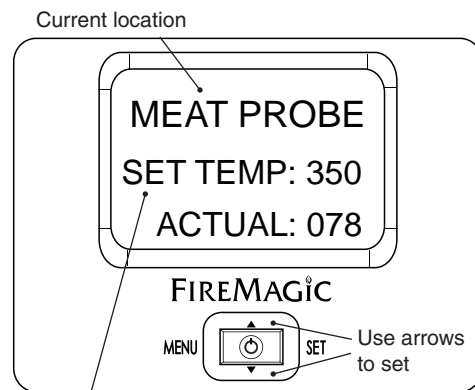

Fig. 21-4 Temp. screen (meat probe shown)
2. The selected location's temperature screen will be displayed (see Fig. 21-4.)